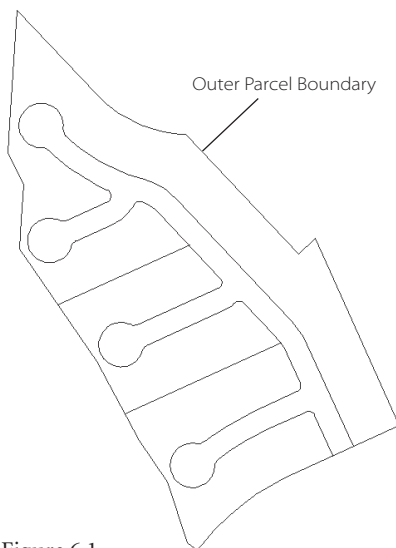

Figure 6.1
3. At the **Select lines, arcs, or polylines to convert into parcels or [XREF]:** prompt, select the blue colored polyline that represents the outer site boundary, as shown in Figure 6.1.